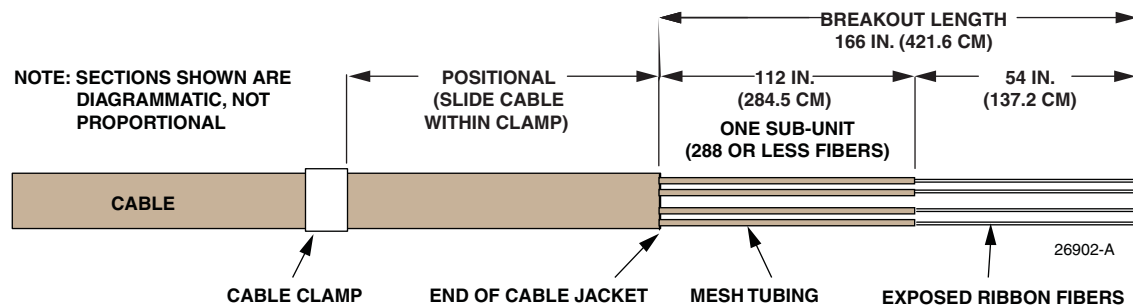

Figure 16. Facility Cable Breakout Exploded View
All facility cables are broken out to the same dimensions (shown in Figure 16). These dimensions allow approximately 6 feet (1.83 m) of working length for moving the splice tray to a convenient
2. Strip back the cable jacket to expose the internal fiber ribbons. Strip the cable at a distance of 166 in. (421.6 cm) from the lead end of the cable as shown in Figure 16.